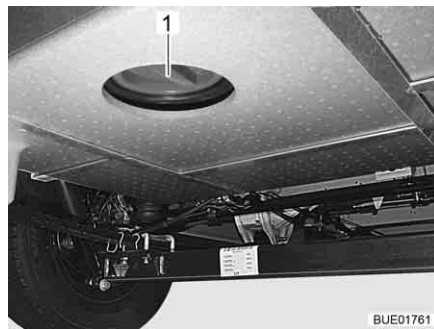

Fig. 256 Cleaning opening on the waste water tank
- Open the cleaning opening (Fig. 256,1) on the waste water tank and the drain cock.